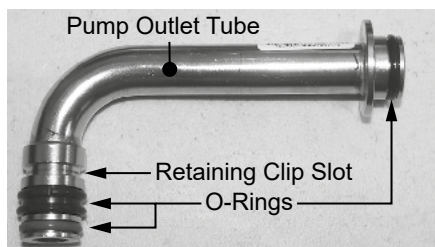

Figure 11 - Pump outlet tube O-rings
- Locate new pump outlet tube and three (3) O-rings provided in the kit. The pump outlet tube uses one (1) 14 x 2.5 O-ring on the inlet side, one (1) 14 x 7 double seal O-ring on the inlet side, and one (1) 15 x 2.5 O-ring on the outlet side. Install O-rings to tube. Install tube to water pump and secure with retaining clip. Install tube to water connection and secure with spring clip (size 25). Proceed to **Step 33** if not replacing water pump. See Figure 11.
The pump outlet tube uses one (1) 14 x 2.5 O-ring on the inlet side, one (1) 14 x 7 double seal O-ring on the inlet side, and one (1) 15 x 2.5 O-ring on the outlet side. See Figure 11.